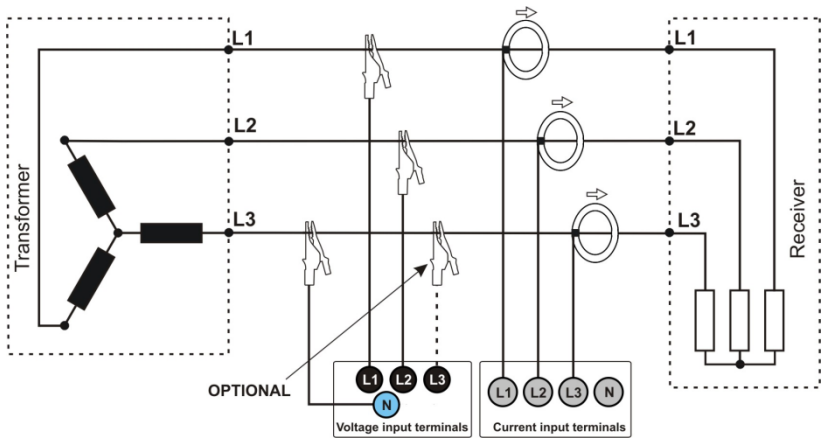
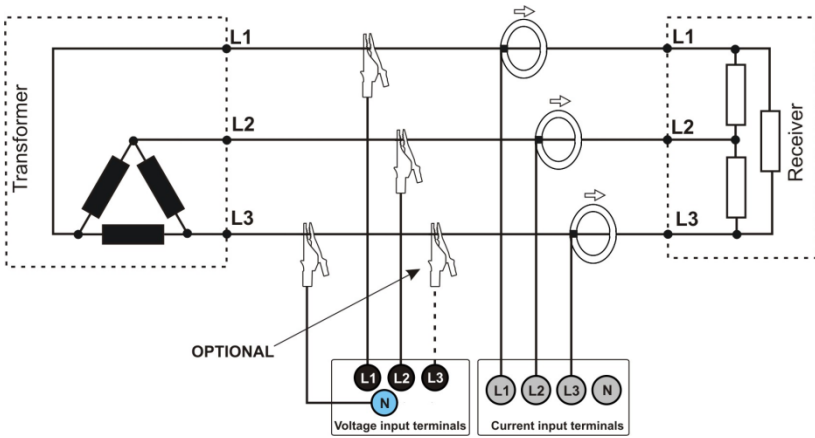
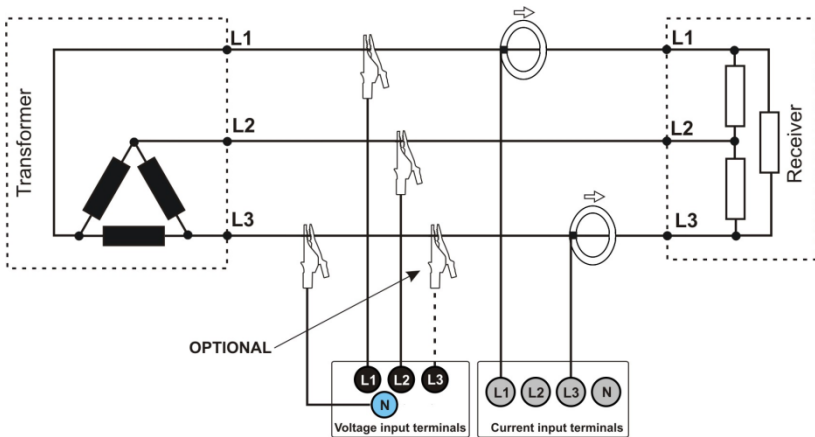
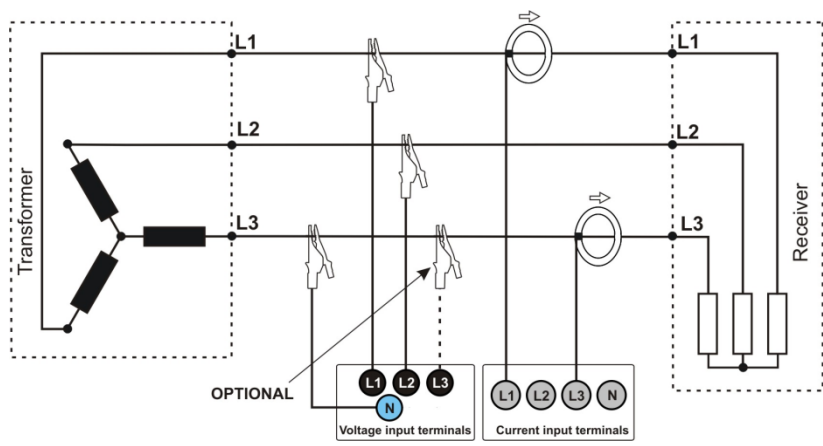

Fig. 8. Wiring diagram – 3-phase wye without neutral conductor.
Fig. 9. Wiring diagram – 3-phase delta.
Fig. 10. Wiring diagram – 3-phase delta (current measurement using Aron method).
Fig. 11. Wiring diagram – 3-phase wye without neutral conductor (current measurement using Aron method).
- 3-phase wye without neutral conductor (Fig. 8),
- 3-phase delta (Fig. 9).
This method can be used in delta systems (Fig. 10) and wye systems without a neutral conductor (Fig. 11).
As the voltage measuring channels in the analyzer are referenced to N input, then in systems where the neutral is not present, it is necessary to connect N input to L3 network terminal. In such systems, it is not required to connect L3 input of the analyzer to the tested network. It is shown in Fig. 8, Fig. 9, Fig. 10 and Fig. 11 (three-wire systems of wye and delta type).